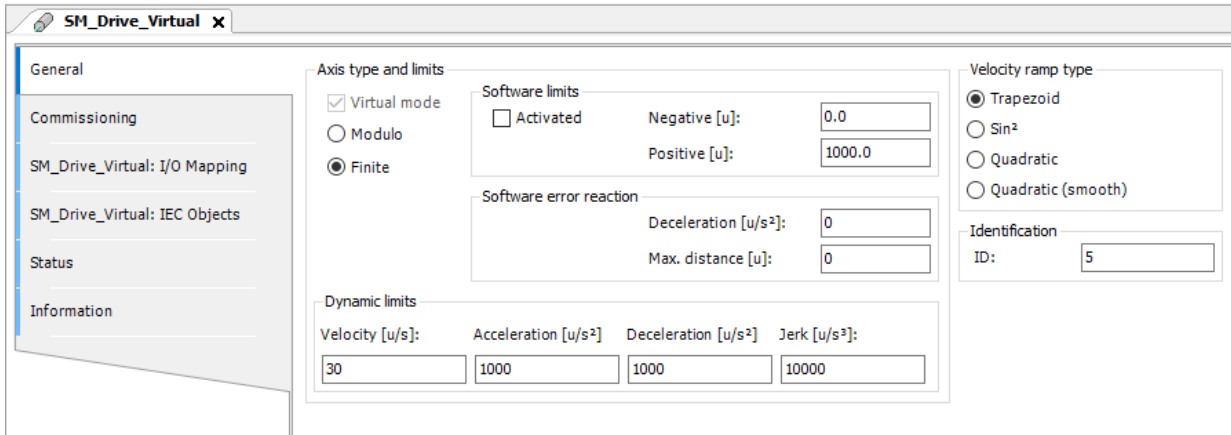

Figure 5.6: Example of virtual axis settings.
- Set the **General** tab, according to Fig 5.6.